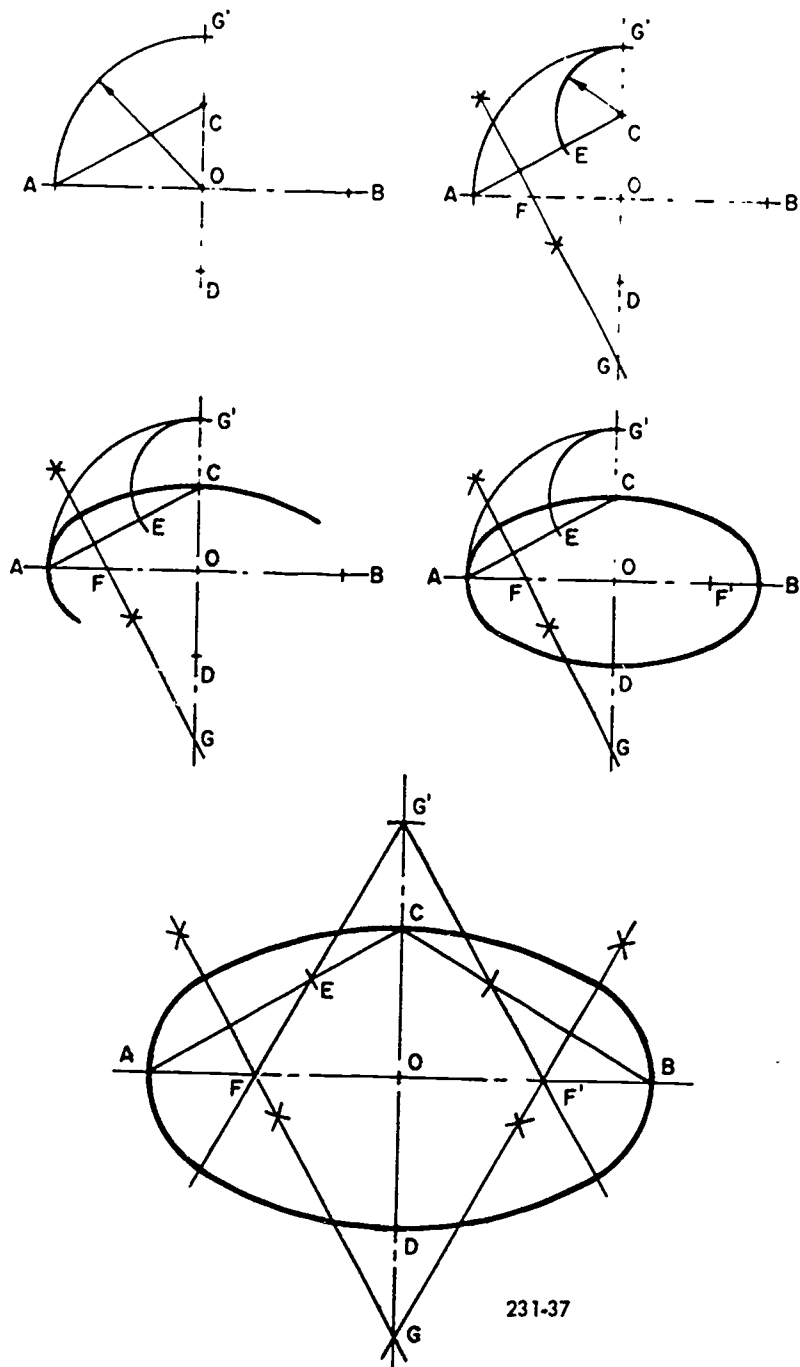
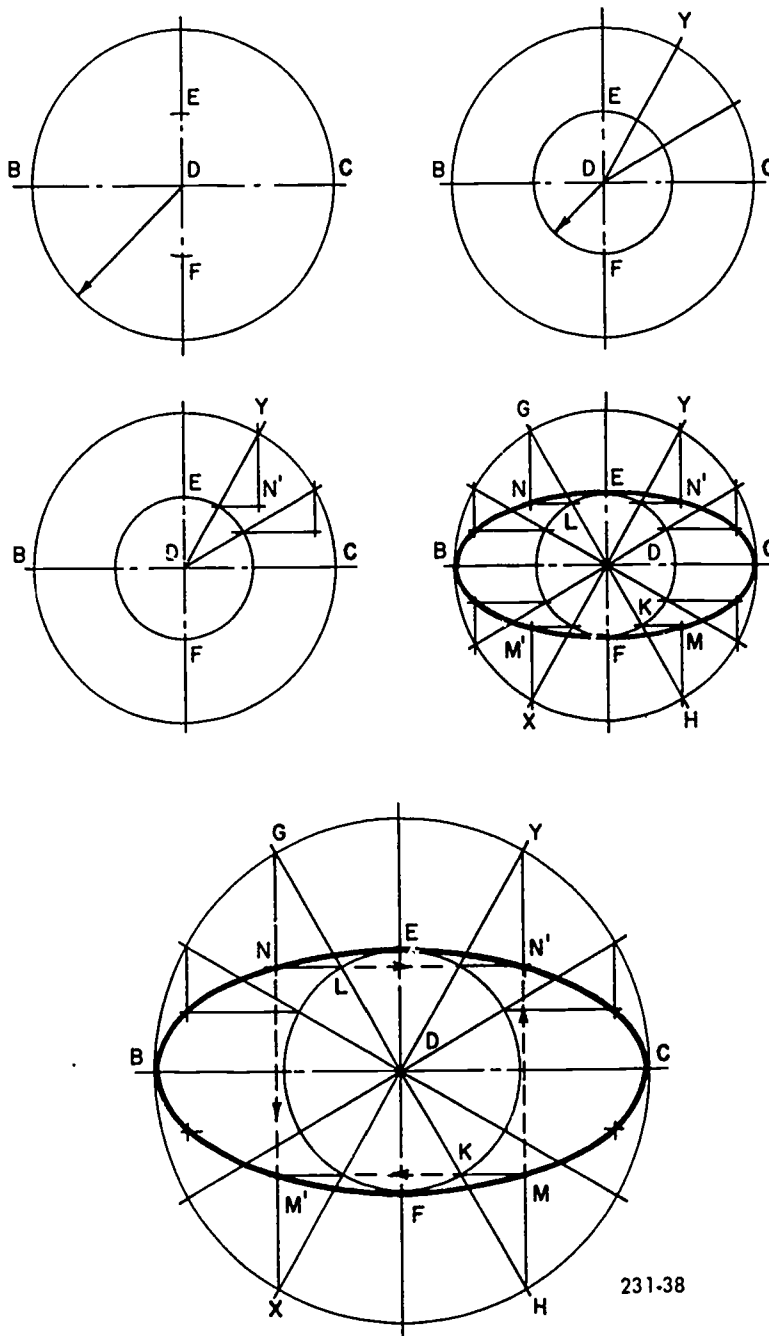

Figure 4-36. Constructing an ellipse by four-center method.
Figure 4-37. Constructing an ellipse by concentric circle method.
- (1) On the straight edge of a slip of paper, cardboard, or plastic, mark half the distance (AO) of the major axis, and then mark half the distance (CO) of the minor axis.
- (2) Place the trammel so that point A is on the minor axis and point C is on the major axis. Point O is then marked on the curve.
- (3) Locate additional points of the curve by moving the trammel to other positions, always keeping point A of the trammel on the minor axis and point C on the major axis.
- (4) After you have established a sufficient number of points for the curve, draw the ellipse with an irregular curve.
**An Ellipse Constructed by Four-Center Method.** Although this method of construction produces an approximate ellipse, it is useful, since the use of an irregular curve is not required. Given the axes AB and CD, the following procedure is illustrated in figure 4-36.
- (1) Draw line AC to connect the ends of the major and minor axes.
- (2) Mark on line AC the distance CE, which is equal to AO minus CO.
- (3) Draw the perpendicular bisector of AE, extending the bisector to intersect the major axis at point F and the extended minor axis at point G. These two intersection points are centers for two of the required arcs.
- (4) Locate points F' and G' in a similar manner or, more simply, by using dividers. When using dividers, set off OG' equal to OG and OF' equal to OF.
- (5) Using points G and G' as centers and CG as radius, swing the two (long) arcs. Then, using points F and F' as centers and radius FA, swing the two (short) arcs.
- (6) Thus, these four arcs meet to complete the ellipse.
**An Ellipse Constructed by Concentric Circle Method—True Ellipse.** This is another method which you may prefer to use at times. An ellipse constructed by this method is very accurate. Refer to figure 4-37 as you practice the following procedure.
- (1) Using the intersection of the given major axis BC and minor axis EF (point D) as center for the ellipse, draw two concentric circles having the major and minor axes as diameters.
- (2) Draw any diametral line GH.
- (3) Through points where the diametral line GH cuts the circumference of the outer circle, draw vertical lines MH and GN.
- (4) At points where the same diametral line, GH, intersects the circumference of the inner circle, draw horizontal lines KM and NL.
- (5) The intersection points M and N of the vertical and horizontal lines are points on the required ellipse.
- (6) Next, locate point M' by extending line GN and line KM to intersect as shown on the illustration. In a similar manner, locate point N'.
- (7) Thus, four points are established on the ellipse by drawing one diametral line.
- (8) Repeat the entire procedure several more times to locate enough points so that a smooth ellipse can be drawn by use of an irregular curve.